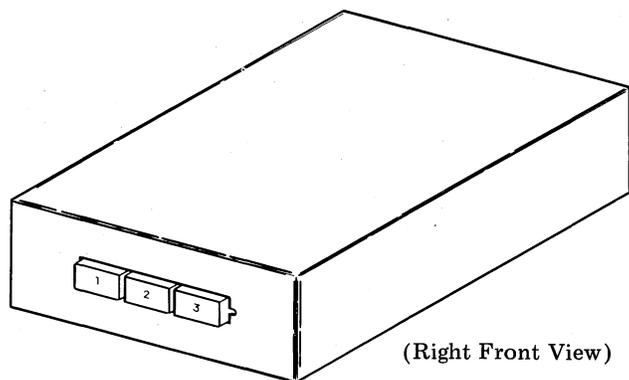

Fig. 1—EIA Switch Assembly
1.02 Each mode is established by operating one of the three pushbuttons (Fig. 1). Signal and control interface leads are connected to the required receptacles (P1 through J7) through banks of slide transfer switches which are activated by the pushbuttons. No signal limiting or modification takes place in the switch assembly.
- 2.06 The pushbuttons are identified 1, 2, and 3 from left to right (Fig. 1). A label may be attached to the switch assembly to indicate the significance of the three switches in relation to the station equipment.